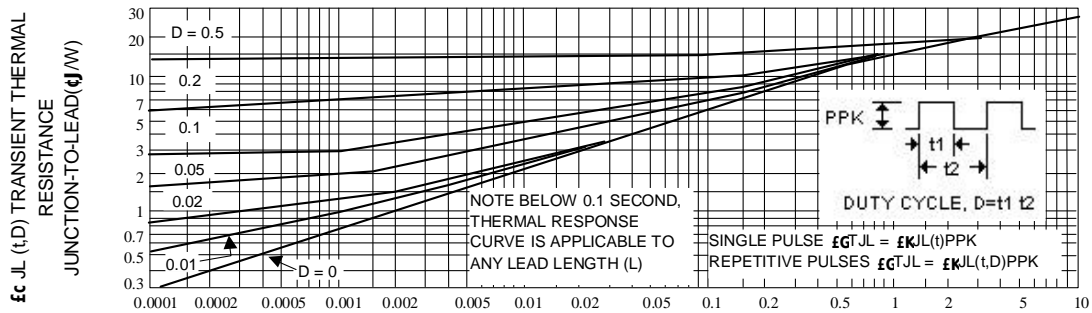
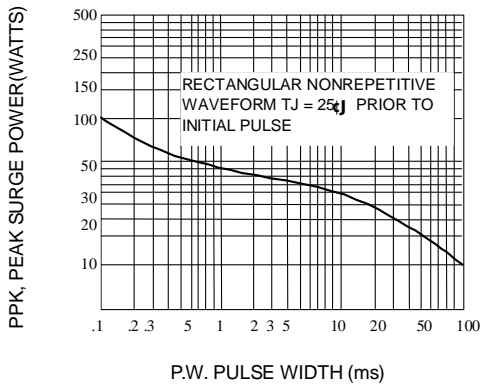
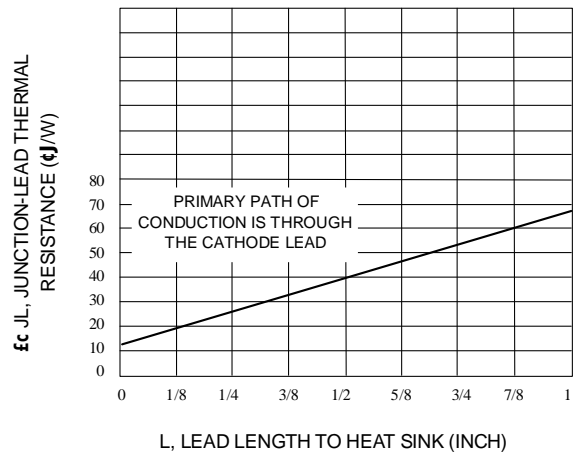

Fig. 2-TYPICAL THERMAL RESPONSE L,
Fig. 3-MAXIMUM SURGE POWER
Fig. 10-TYPICAL THERMAL RESISTANCE
4. SURGE CURRENT (I_r) NON-REPETITIVE - The rating listed in the electrical characteristics table is maximum peak, non-repetitive, reverse surge current of 1/2 square wave or equivalent sine wave pulse of 1/120 second duration superimposed on the test current, I_{ZT} , per JEDEC standards, however, actual device capability is as described in Figure 3.
θ_{JL} is the increase in junction temperature above the lead temperature and may be found from Figure 2 for a train of power pulses or from Figure 10 for dc power.
Data of Figure 2 should not be used to compute surge capability. Surge limitations are given in Figure 3. They are lower than would be expected by considering only junction temperature, as current crowding effects cause temperatures to be extremely high in small spots resulting in device degradation should the limits of Figure 3 be exceeded.